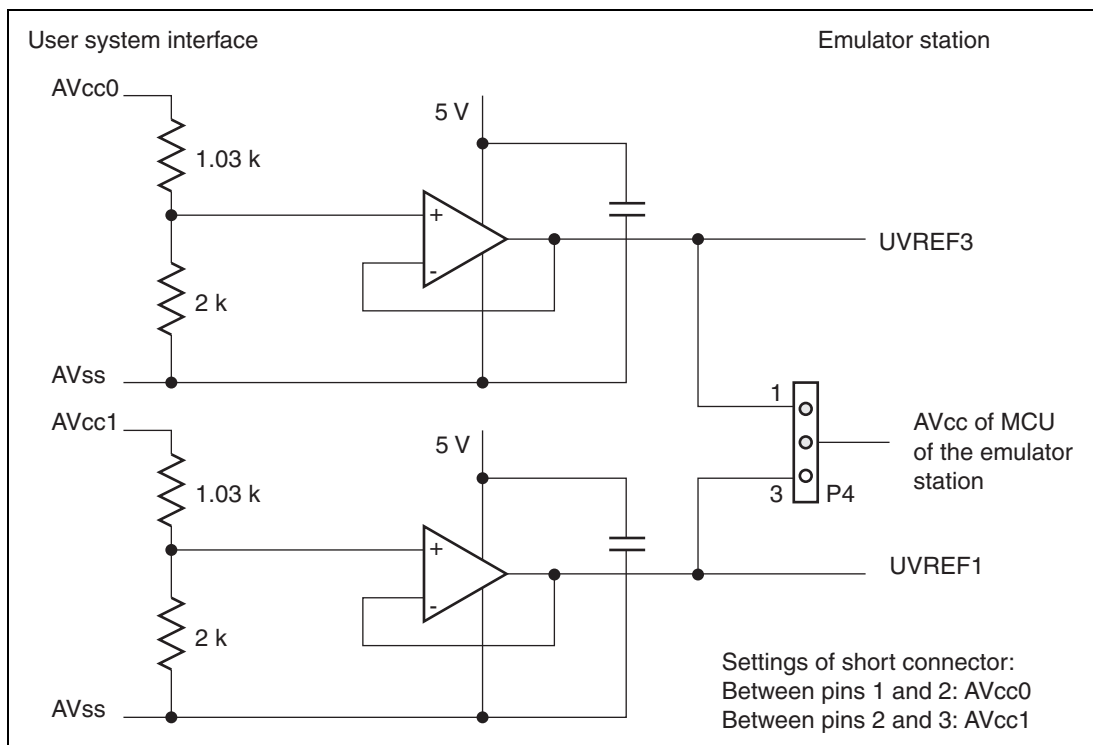

Figure 13 Level-shift Circuit with AVcc0 and AVcc1
6. A level-shift circuit with AVcc0 and AVcc1 is mounted on the user system interface cable, as shown in figure 13. At shipment, the jumper pin is inserted in the side of pins 1 and 2 of the